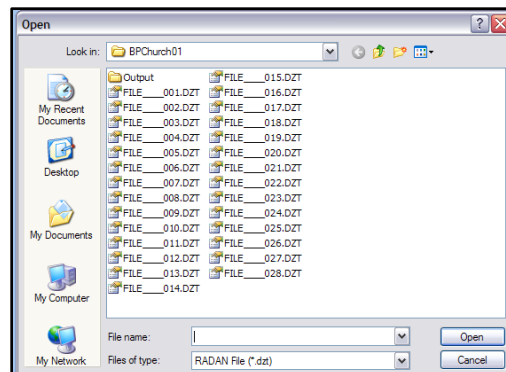

Figure 2
- Select a file to view/process and click Open (Figure 2),
- Or click Open File/Project to select a file from your Source or Output folder (Figure 2).